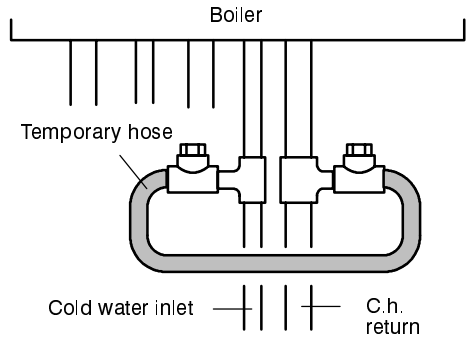

fig. 2.1
- 1 Isolate the boiler from the electrical supply at the fused spur. Reconnect the filling loop as demonstrated in fig. 2.1.